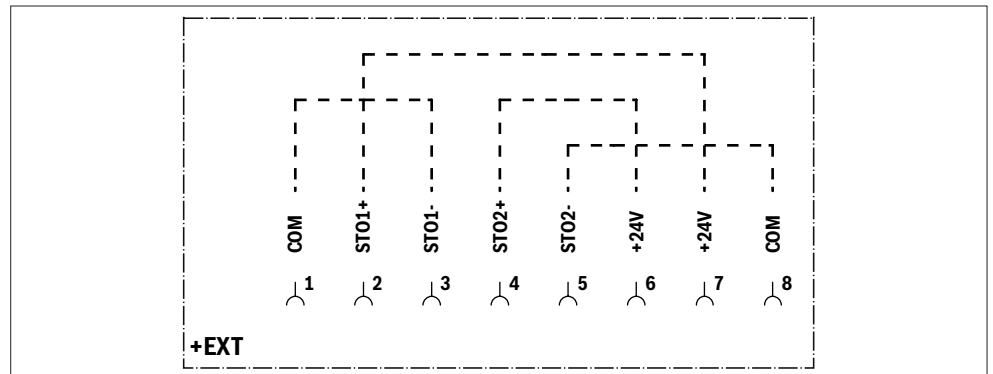

Fig. 19: Bridged contacts when STO function is disabled
- If you want to operate the CytroPac without the STO function, the following contacts of the mating connector must be bridged as shown in Fig. 19.